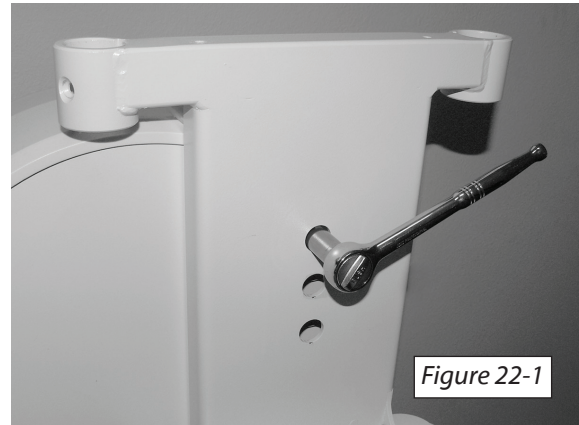

Figure 22-1
4. On the front side of the chassis, loosen the three screws on the seat support using a 9/16" socket. *[Figure 22-1]*